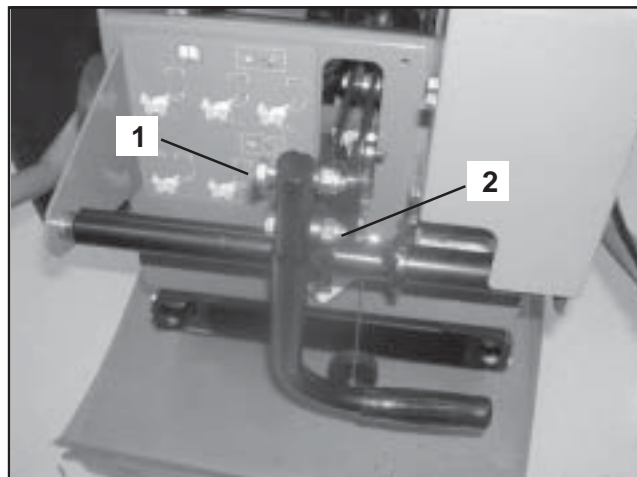

FIGURE 4
6. Using a 9/16" wrench and socket wrench, remove top bolt and lock nut on the depth of cut handle. Loosen lower bolt. Rotate handle up and replace bolt in lower hole and tighten hardware. See Figure 4.